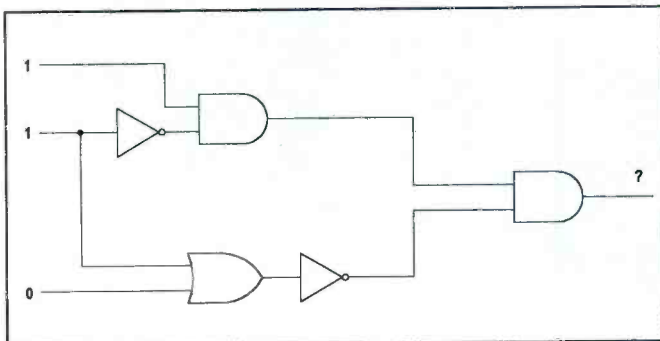

Figure 1.
4. What is the output logic level of the gate circuit in Figure 1?